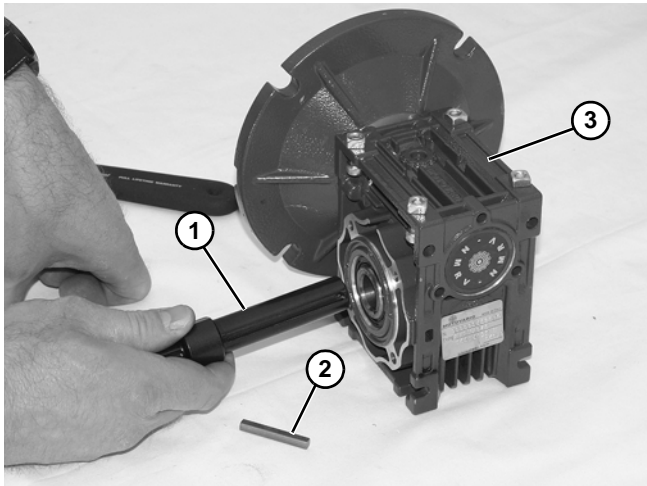

Figure 31
3. Remove driveshaft (Figure 31, item 1) and key (Figure 31, item 2).
4. Replace gear reducer (Figure 31, item 3).
6. Replace the original shaft components into new gear reducer (see Figure 31).